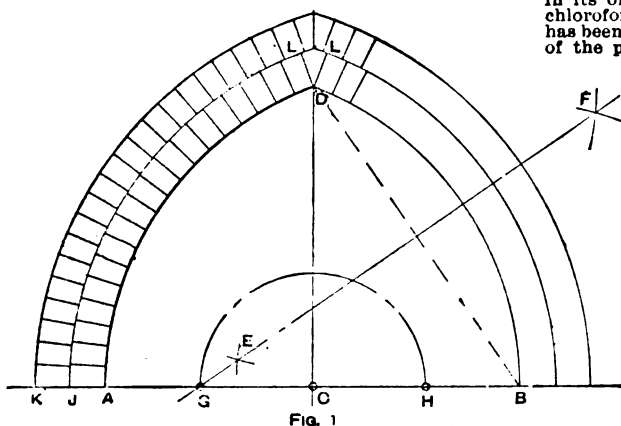
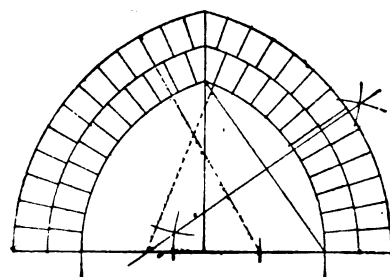

FIG. 1
FIG. 2
**Gauged Rubber Gothic Arch.**—In Fig. 1 of the illustrations of a gauged rubber Gothic arch AB is the span at the springing line, the centre of the opening being at C, from which set up the rise as at CD. Bisect DB with line EF, cutting springing line at G. G is the centre for the arcs on the right side of the figure; the centres for the arcs on the left being obtained by symmetry, as at J and K, the radius of soffit being HA, whilst the other curves are parallel. In filling in the arch, prick over the extrados a distance that the bricks will work (say, 3 in.), and draw joints radiating to the centres from which the arcs are described. For the inner ring, set off on each side of the centre line a distance of half the thickness of the voussoir, that is 1½ in. as at LL, and working from this point mark over as before. It has been objected that the key brick in the first ring, Fig. 1, is a wedge-shaped piece, which, although very often put
in, is not correct. In the first place the true Gothic should always have a straight joint at key, which has a much better appearance; also the two joints which would meet at the bottom of this piece would leave a ragged appearance on the soffit. According to one opinion, Fig. 2 shows the more usual method of cutting this arch.
**Smoke Diffuser.**—The appliance shown in side elevation by Fig. 1 is intended to be fitted to the top of a lamp glass to prevent the ceiling from getting smoked. It consists of a piece of steel A, about  $\frac{1}{4}$  in. wide and  $5\frac{1}{2}$  in. long, bent to shape. A circular piece of mica B,
which can be ornamented as shown in the half plan, Fig. 2, is fixed at C (Fig. 1) to the steel piece by small rivets. The appliance is fixed by the chimney fitting into the groove at D.